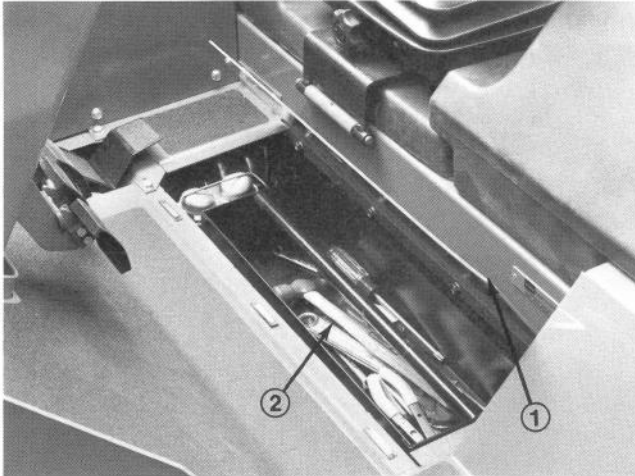

Figure 51
1. Raise floor panel in front of seat (Fig. 51). Remove tool tray.
2. Remove deck tilt link from tool box under traction unit floor (Fig. 51) and klik pins from weldments on traction unit frame and cutting unit lift arm.